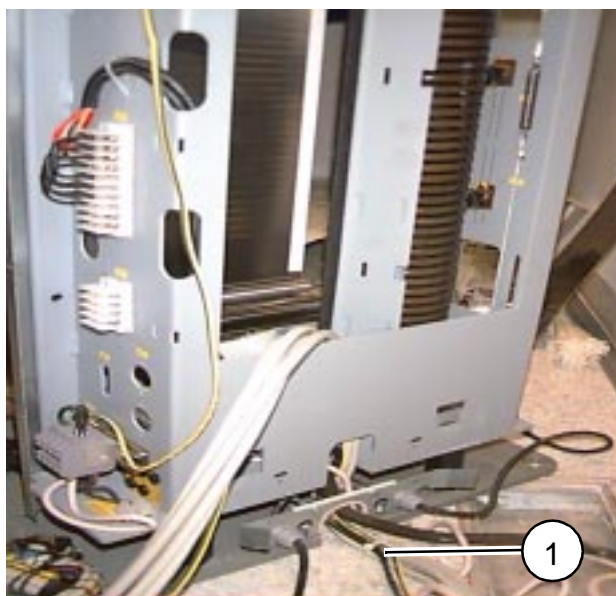

Fig. 1
- Insert the cable harness as shown in (1) Fig. 1 in the back of the stand.
- Route the cable (1/Fig. 1) to the generator and connect it as described in the installation instructions.